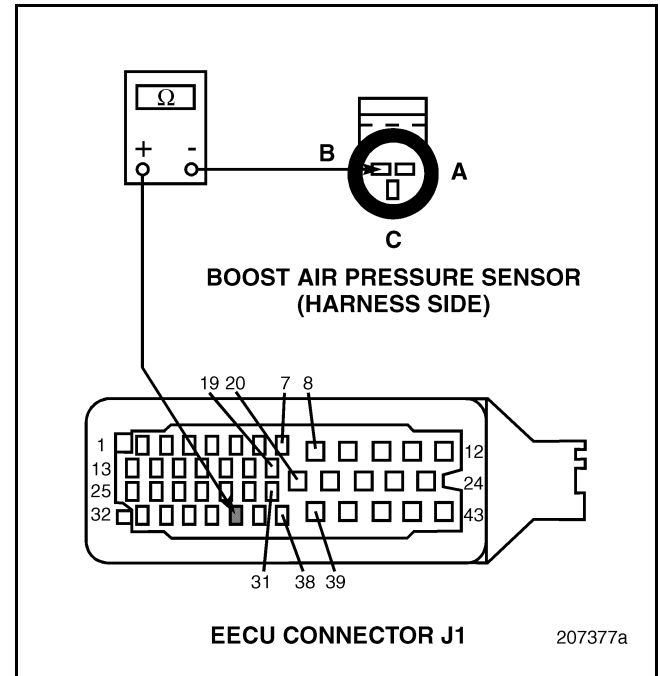

Figure 167
3. Check for continuity between Boost Air Pressure (BAP) Sensor harness connector pin B (reference voltage line) and EECU harness connector J1 pin 36 (see Figure 167).